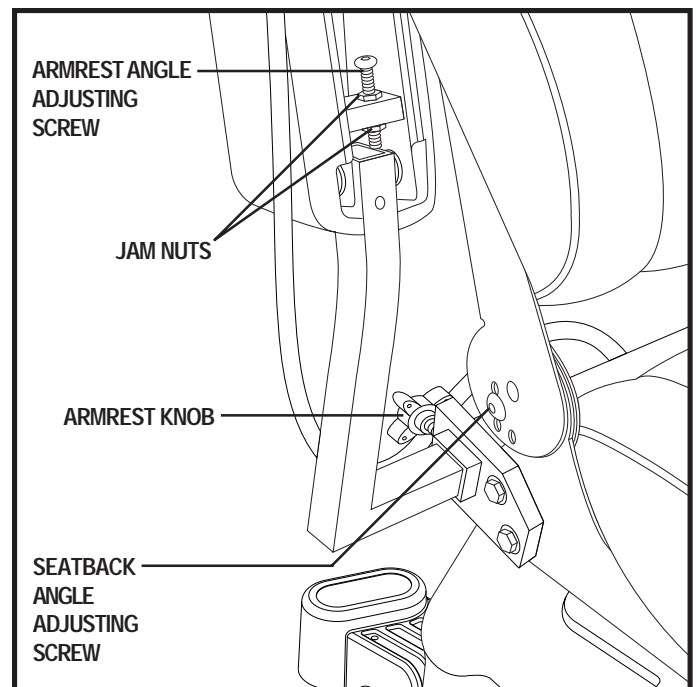

Figure 18. Armrest and Seatback Adjustments
1. Remove the seatback angle adjusting screw from each seat hinge. See figure 18.
1. Locate the two adjustment knobs on the armrest receiver bracket. See figure 18.
2. Loosen the jam nuts. See figure 18.